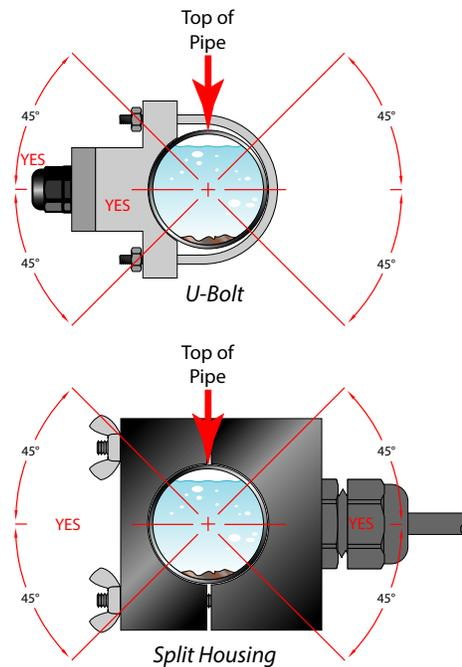

Figure 1: Transducer positioning
3. On horizontal pipes, mount the transducer in an orientation so the cable exits at  $\pm 45$  degrees from the side of the pipe. Do not mount with the cable exiting on either the top or bottom of the pipe. See Figure 1 on page 1. On vertical pipes, the orientation does not matter.